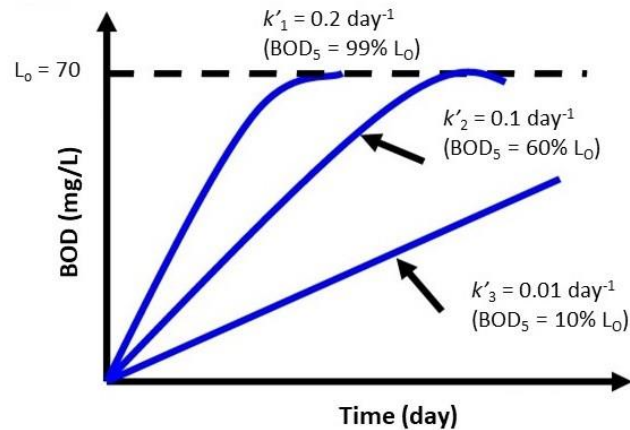

Figure 1: The reaction of BOD at the difference value of  $k'$
- (5). (a). The reaction of BOD is directly proportional to the BOD coefficient,  $k'$ . Explain the relationship between  $BOD_5$ , ultimate BOD ( $L_0$ ) and  $k'$  profile as shown in **Figure 1**.
- (i). Based on the given  $L_0$  and  $k'_1$  value, determine the type of water in **Figure 1**.